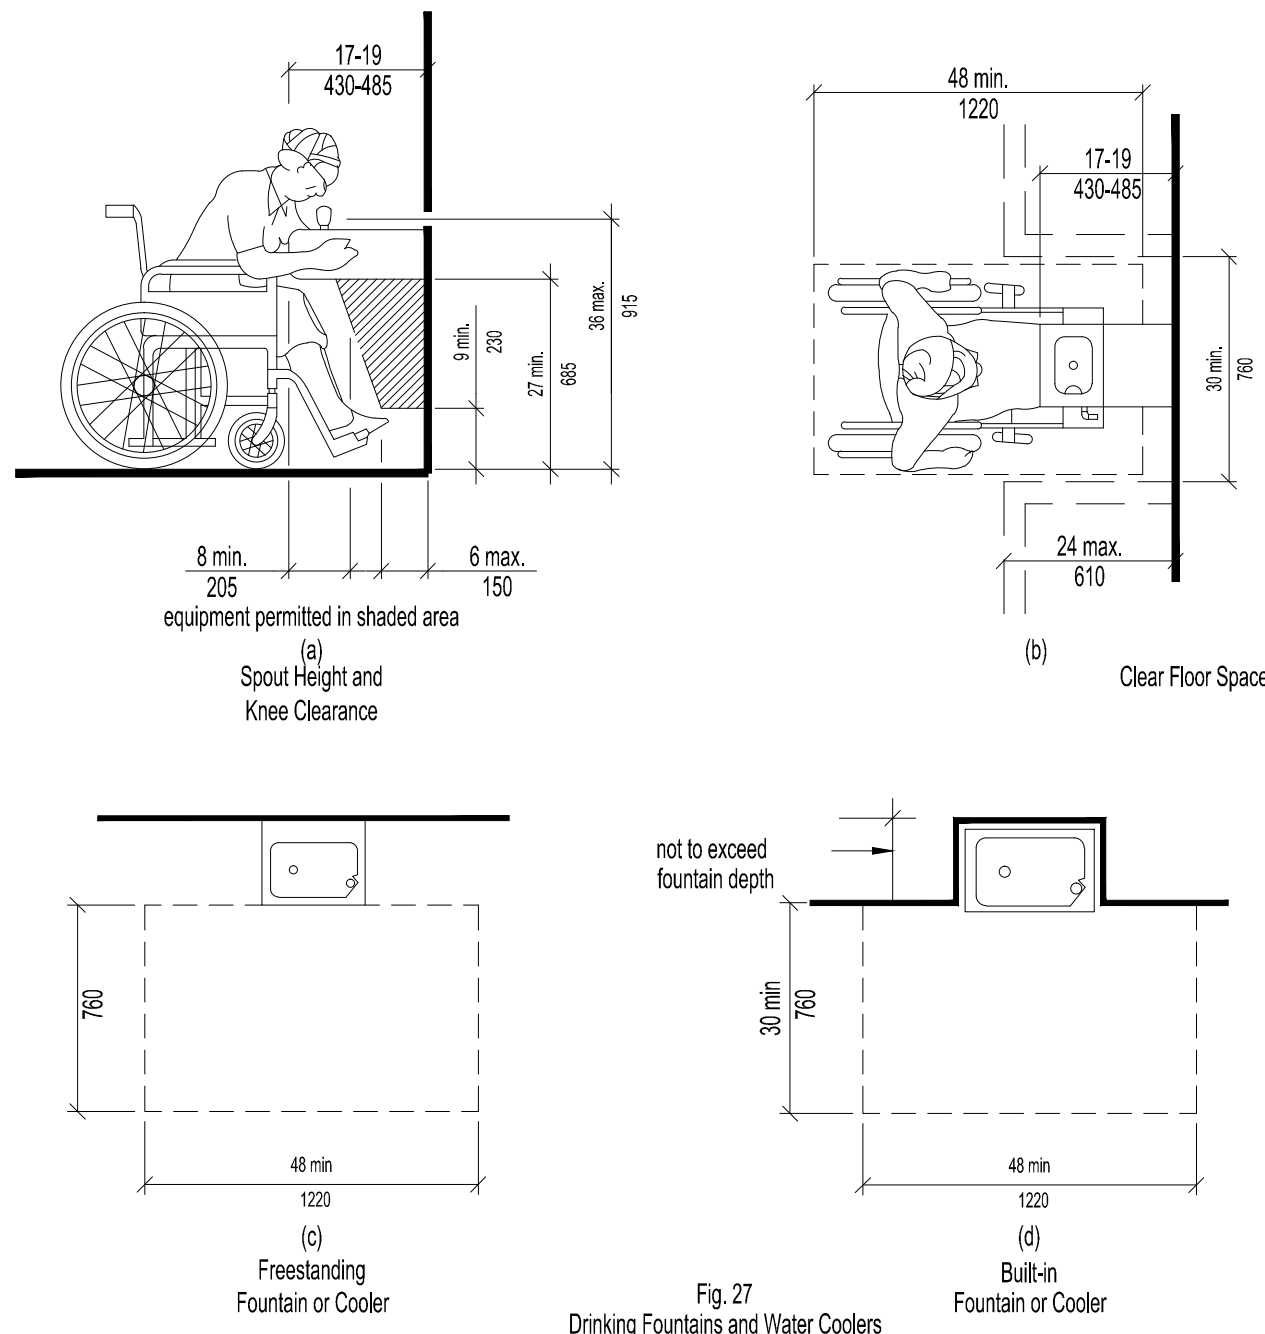

Fig. 27
4.15.2 Spout Height. Spouts shall be no higher than 36" (915mm), measured from the floor or ground surfaces to be the spout outlet (see Fig. 27(a)).
- (1) Wall and post-mounted cantilevered units shall have a clear knee space between the bottom of the apron and the floor or ground at least 27"(685mm) high, 30"(760mm) wide, and 17" to 19" (430mm to 485mm) deep (see Fig. 27(a) and (b)). Such units shall also have a minimum clear floor space 30" by 48" (760 mm by 1220mm) to allow a person in a wheelchair to approach the unit facing forward.
- (2) Freestanding or built-in units not having a clear space under them shall have a clear floor space at least 30" by 48" (760 mm by 1220 mm) that allows a person in a wheelchair to make a parallel approach to the unit (see Fig. 27(c) and (d)). This clear floor space shall comply with 4.2.4.